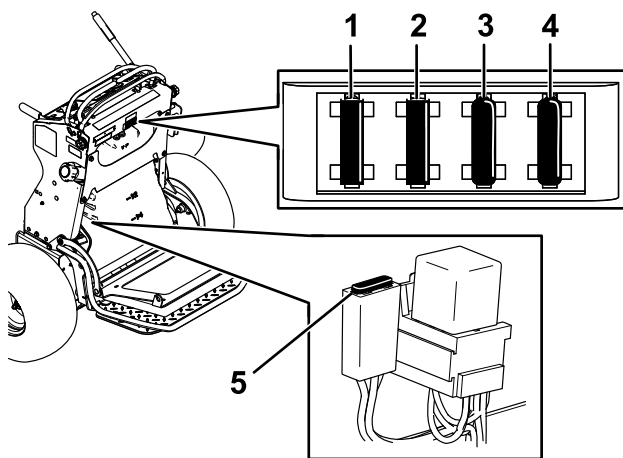

Figure 63
5. Pull out the fuse and replace it (Figure 63).